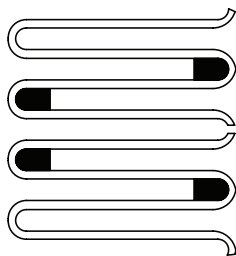

Figure 1 - Coil Spacers for sizes 1030 through 1060T
- A. Sizes 1030 through 1060T** – Insert 2 coil spacers at each end of the grid, as shown in Figure 1, then insert the other 4 spacers in the same pattern, 180° from the split coil (8 spacers per grid).